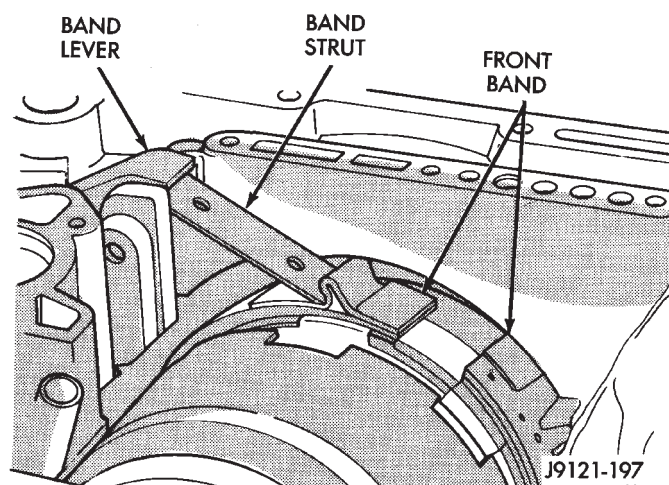
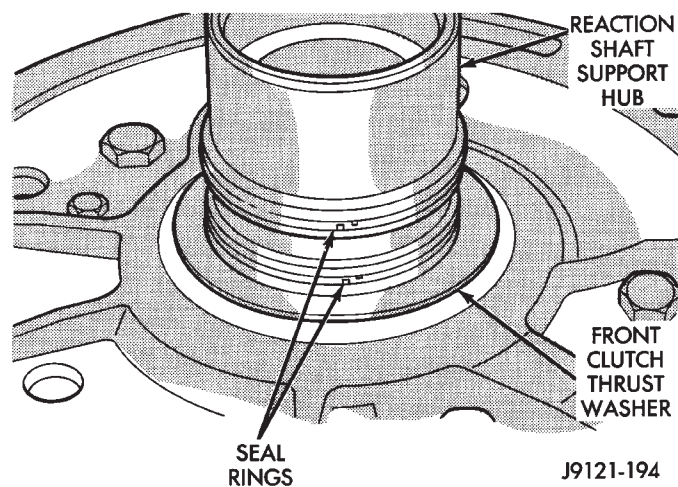

Fig. 175 Front Band Linkage Installation
Fig. 176 Reaction Shaft Support Seal Rings And Front Clutch Thrust Washer
(29) Install front band lever, strut and adjusting screw (Fig. 175).
(30) Push front band lever shaft completely into place. Then tighten band adjusting screw until band just grips clutch retainer. Verify that front/rear clutches are still seated before continuing.
(31) Coat band reaction pin access plug with sealer and install plug in converter housing.
(32) Check seal rings on reaction shaft support hub. Verify that seal rings are hooked together and that front clutch thrust washer is properly positioned (Fig. 176). Use extra petroleum jelly to hold thrust washer in place if necessary.